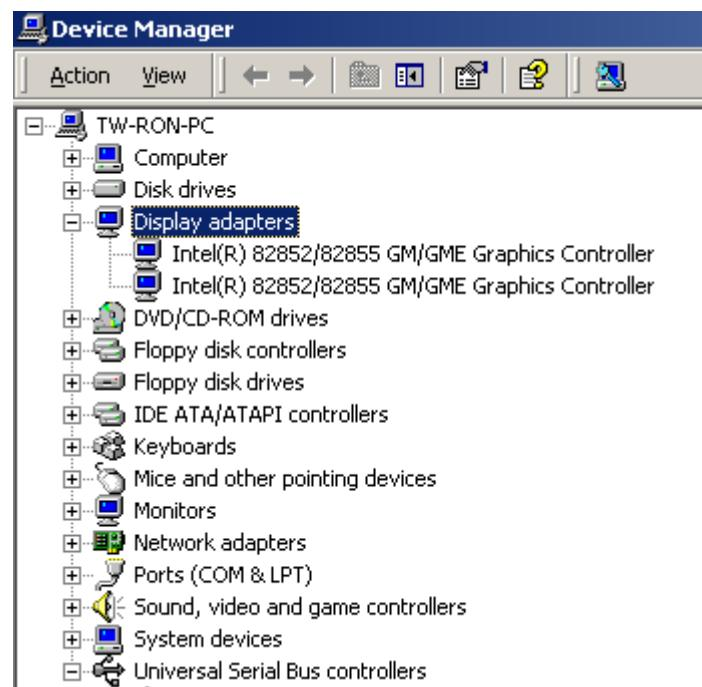

Figure 7-7: Expand the Display Adapters Category
Step 5: Expand the **Display Adapters** category (**Figure 7-7**). Right click the adapter and select **Properties**.